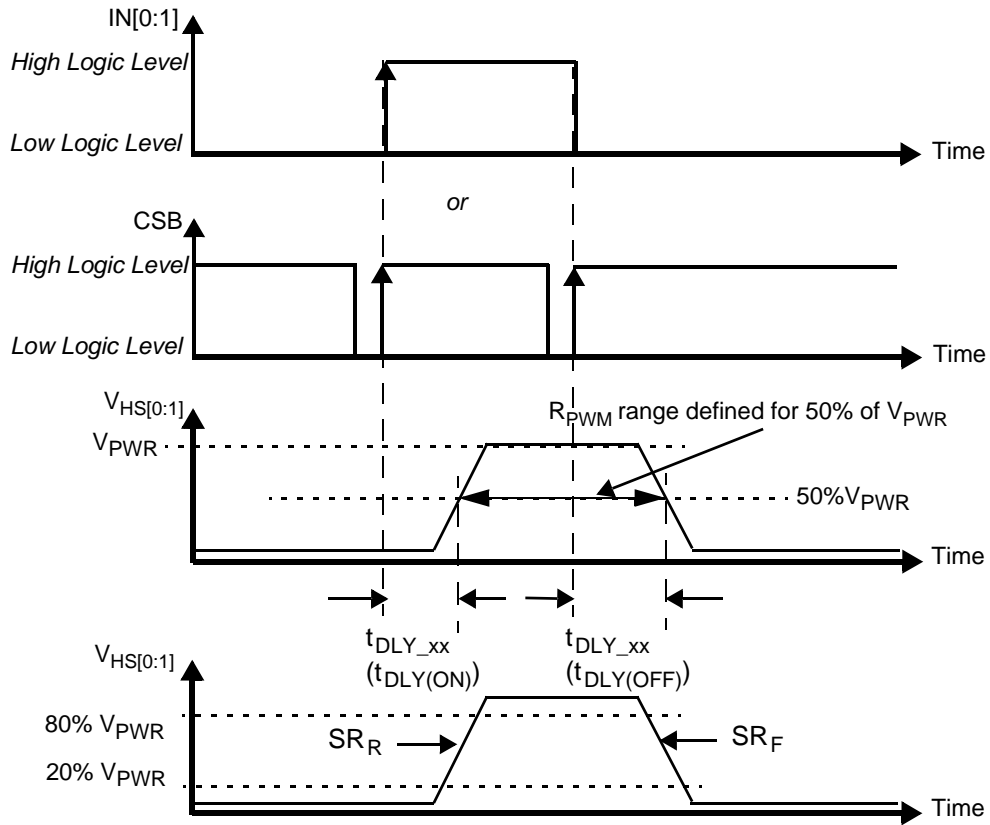
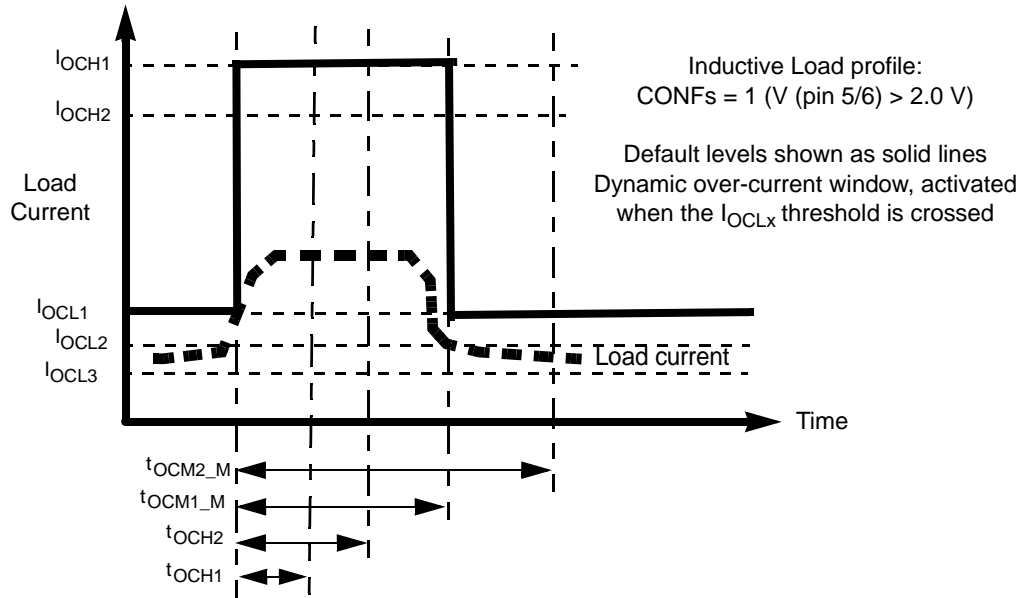
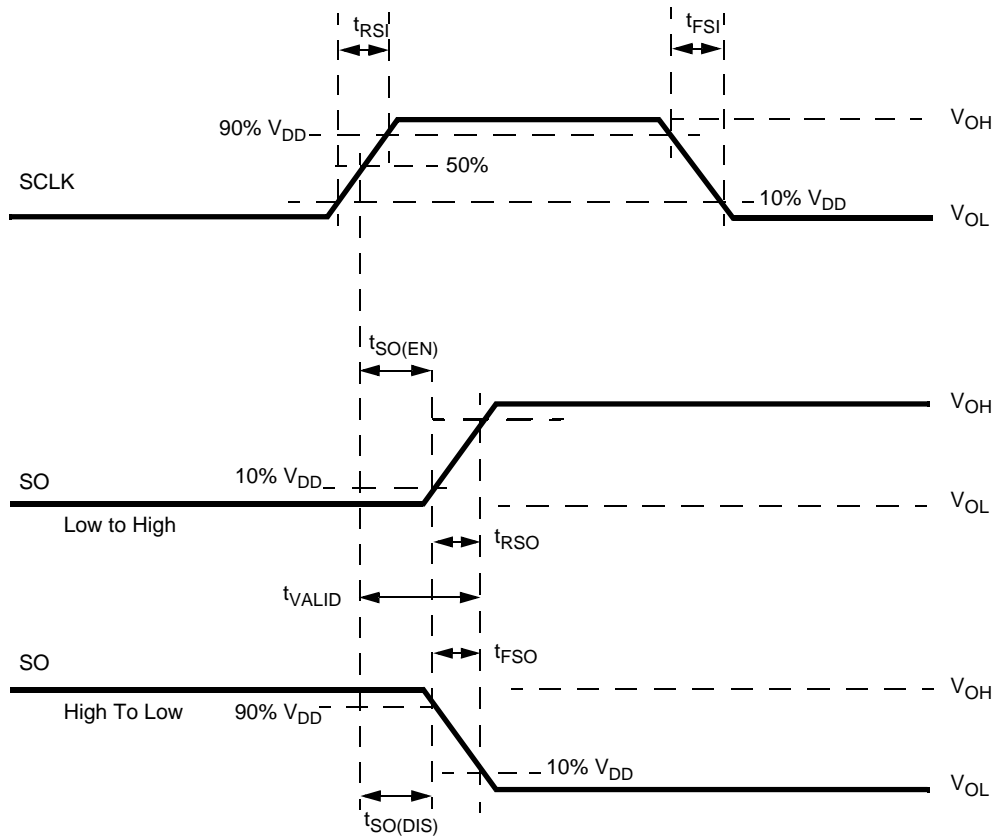

Figure 4. Output Voltage Slew Rate and Delay
Figure 6. Over-current Protection Profile for Applications with Inductive Loads (DC motors, solenoids)
Figure 8. Timing Diagram for Serial Output (SO) Data Communication
27. Rising and Falling edge slew rates specified for a 20 to 80% voltage variation on a 5.0 Ω resistive load (see Figure 4).
29. Rising and Falling edge slew rates specified for a 20 to 80% voltage variation on a 5.0 Ω resistive load (see Figure 4).
31. Time required to switch off the channel after detection of over-temperature (OT), over-current (OC), SC or UV error (time measured between start of the negative edge on the FSB pin and the falling edge on the output voltage until $V(\text{HS}[0:1]) = 50\%$ of V_{PWR}
32. Settling time ($= t_{\text{CSNSVAL_xx}}$), SYNC output signal delay ($= t_{\text{SYNCVAL_xx}}$) and Read-out delay ($= t_{\text{SYNREAD_xx}}$) are defined for a stepped load current ($100\text{ mA} < I(\text{LOAD}) < I_{\text{OCLX A FOR CSNS_RATIO_S}} = 1$, AND $300\text{ mA} < I(\text{LOAD}) < I_{\text{OCLX A}_0}$ FOR $\text{CSNS_RATIO_S} = 0$). (see Figure 8 and Output Current Monitoring \(CSNS\))
The CS pin allows independent current monitoring of channel 0 or channel 1 up to the steady-state over-current threshold. It can also be used to sense the device temperature. The different functions are selected by setting bits CSNS1_en and CSNS0_en to the appropriate value (Table 21). When the CSNS pin is sensed during switch-off in the (optional) track & hold mode (see Figure 8), it will output the scaled value of the load current as it was just before turn-Off. When several devices share the same pull-down resistor, the CSNS pins of devices, the current of which is not monitored, must be tri-stated. This is accomplished by setting CSNS0_en = 0 and CSNS1_en = 0 in their GCR register (Table 11). Settling time ($t_{CSNSVAL_XX}$) is defined as the time between the instant at the middle of the output voltage's rising edge ($HS[0:1] = 50\%$ of V_{PWRR}), and the instant at which the voltage on the CSNS pin has settled to $\pm 5.0\%$ of its final value. Anytime an over-current window is active, the CSNS pin is disabled (see Over-current Detection on Resistive and Inductive Loads). The current and temperature sensing functions are unavailable in Fail-safe mode and in Normal mode when operating without the V_{DD} supply voltage. In order to generate a voltage output, this pin requires a pull-down resistor ($R(CSNS)=1.0\text{ k}\Omega$ typ. and $470 < R(CSNS) < 10\text{ k}$). When the current sense resistor connected to the CSNS pin is disconnected, the CSNS voltage is clamped to $V_{CL(CSNS)}$. The CSNS pin can source currents up to about 5.6 mA.
edge of CSB. The SO output driver is enabled when CSB is logic [0]. CSB should transition from a logic [1] to a logic [0] state only when SCLK is at logic [0]. CSB is internally pulled up to V_{DD} through I_{UP} . (see Figure 6 and Figure 8)